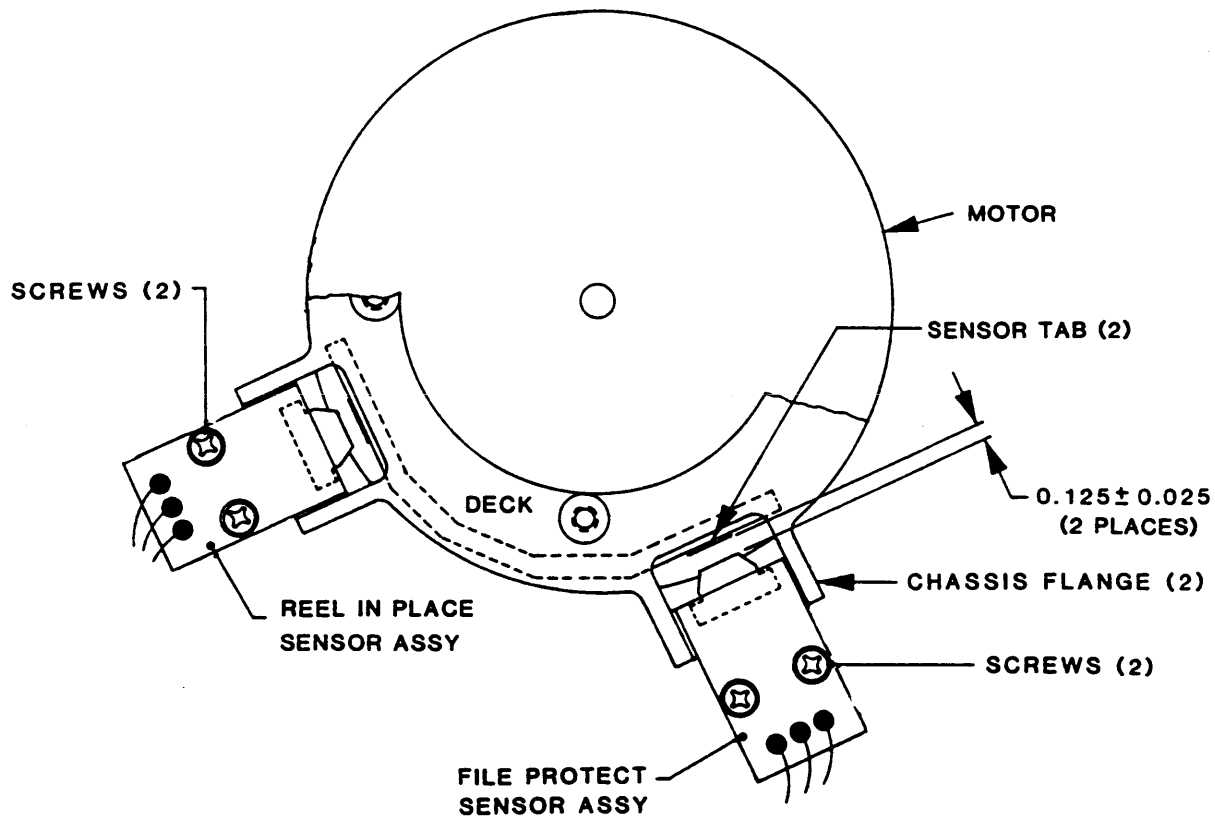

Figure 5-11. File-Protect and Reel-In-Place Sensor Assemblies (Bottom View)
5.3.14 REEL-IN-PLACE SENSOR ASSEMBLY (Figure 5-11)
5.3.15 FILE-PROTECT SENSOR ASSEMBLY (Fig. 5-11)